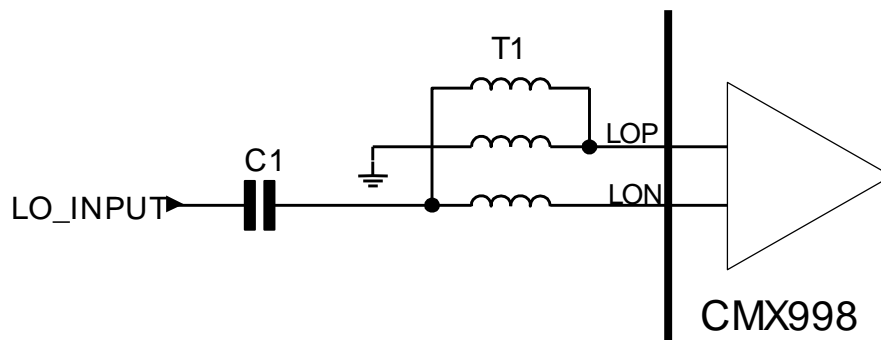

Figure 5 LO Input Configuration using a 1:1 Balun
1. The configuration of the 1:1 balun used at the LO input has to create a dc path to analogue GND for both LO inputs, LOP and LON, as shown in Figure 5.